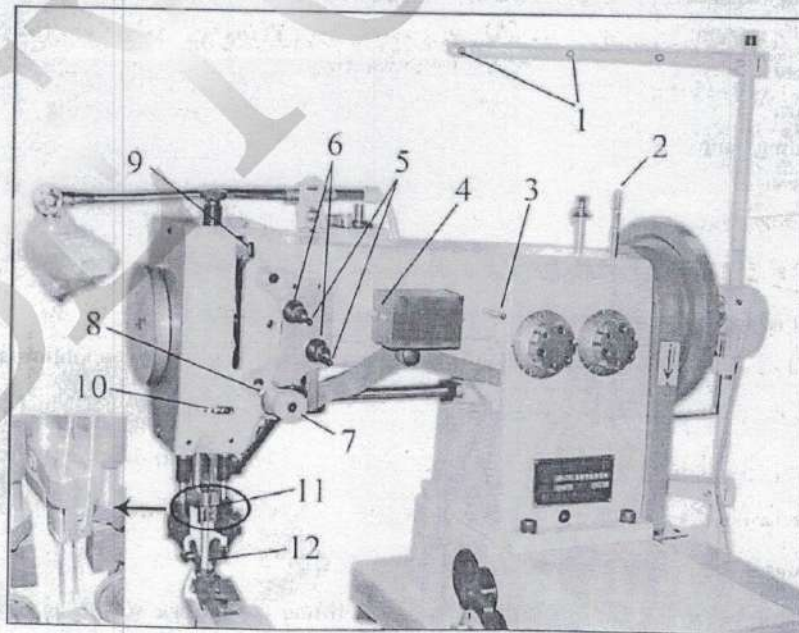

Fig.2
- Threading the needle thread by the path indicated in Fig.2
- (1)Thread wheel holder (2)Threading rod (3)Threading rod (4)Oil box (5)Threading rod
(6)Tightener (7)Threading wheel (8)Take-up leaf (9)Take-up lever (10)Threading ring
(11)Needle holder (12)Needle